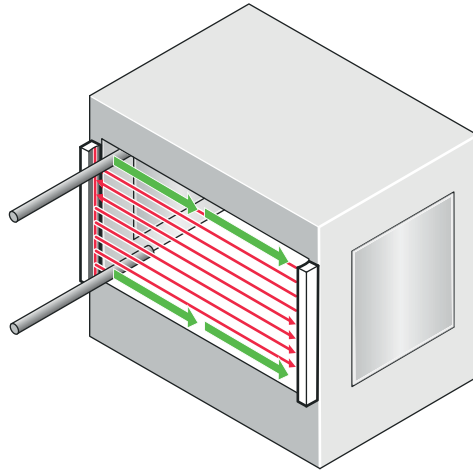

Figure 32: Test rod check: Step 3
3. Then, guide the test rod along the edges of the area to be protected, as indicated by the arrow, see figure 32.